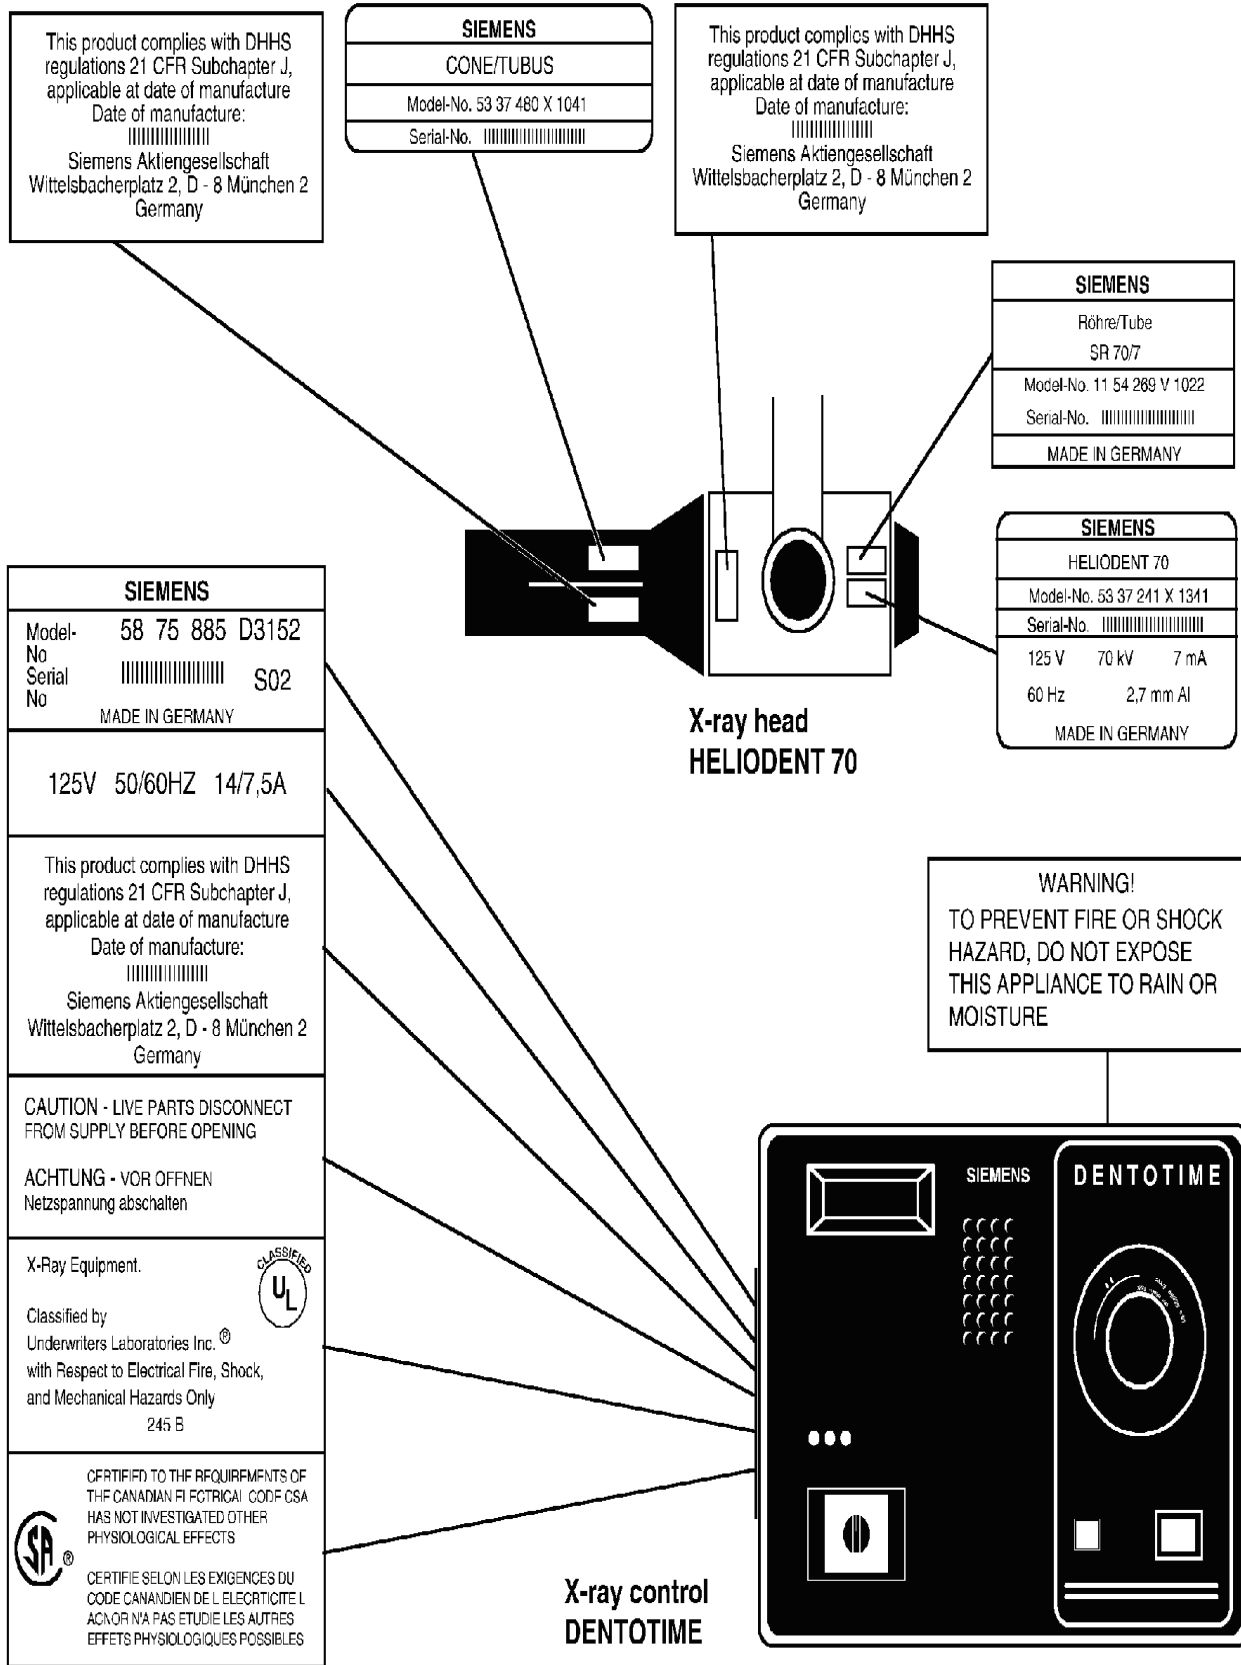

Figure 1-2. Product label placement.
(a) Verify that all labels are affixed and legible. See figure 1-2.
- (1) Verify that all labels are affixed and legible. See figure 1-2.
- (2) Look for mechanical damage possibly affecting radiation safety.
- (3) Inspect components for rust, cracks, wear, fraying electrical cords, missing parts, and operator's publication.
- (4) Test the tube head in all working positions for possible drift.
(5) Look at the operating-ready light (green led), line compensation indicators leds, and the digital line adequacy voltmeter. The operating-ready light must light up and the must be functional.
(6) Correct any minor deficiencies noted in PMCS.
(7) Record any deficiencies that are not corrected on a DA Form 2404.